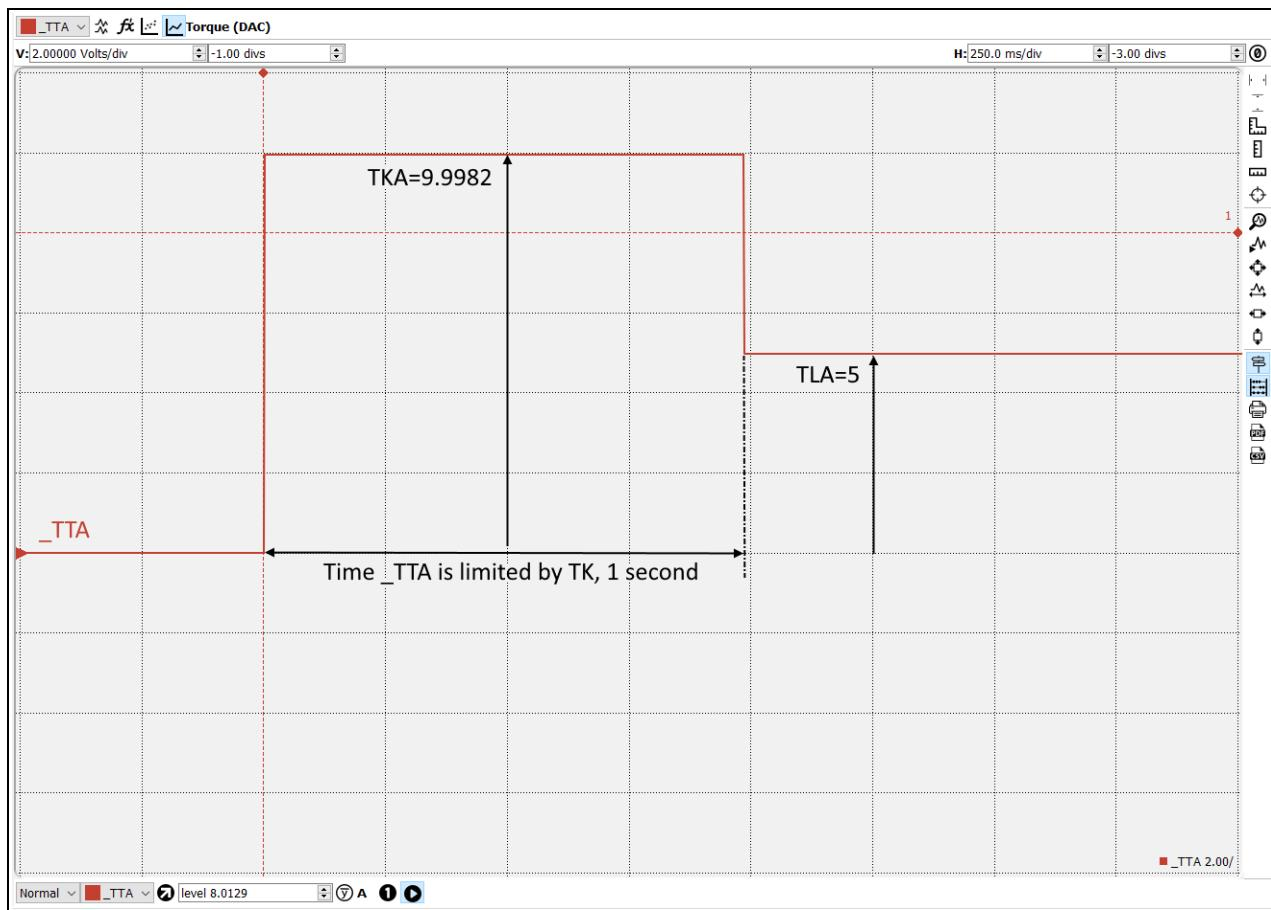

Figure A4.2: Peak Current Operation
The peak and continuous torque limits can be set through the TK and TL commands respectively. The controller will command the torque signal (TT) up to the value specified by TK for a maximum of one second, as shown in Figure A4.2. It will then limit the torque to the value specified by TL. The more time the controller commands the torque below TL, the longer it will command it to TK when necessary. The DMC code example below exhibits the behavior of TT being limited by TL and TK, as shown in Figure A4.2.